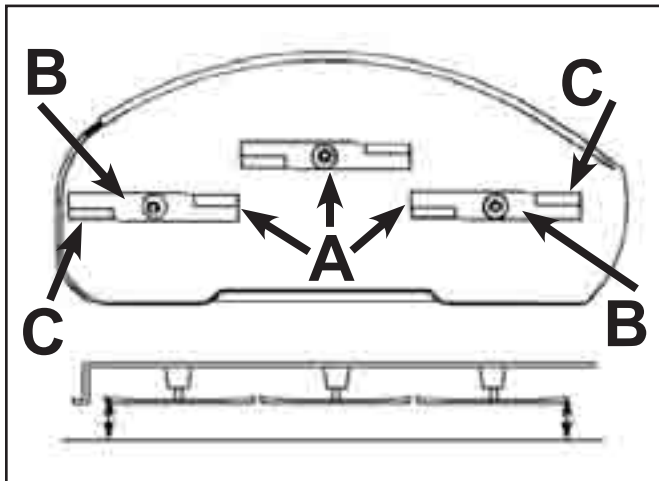

Fig A6 001 fig. 41 G001774
5. Carefully rotate the blade(s) side to side. Measure between the outside cutting edges and the flat surface. If both measurements are not within 3/16" (5mm), an adjustment is required; continue with this procedure (Fig. A6 001).